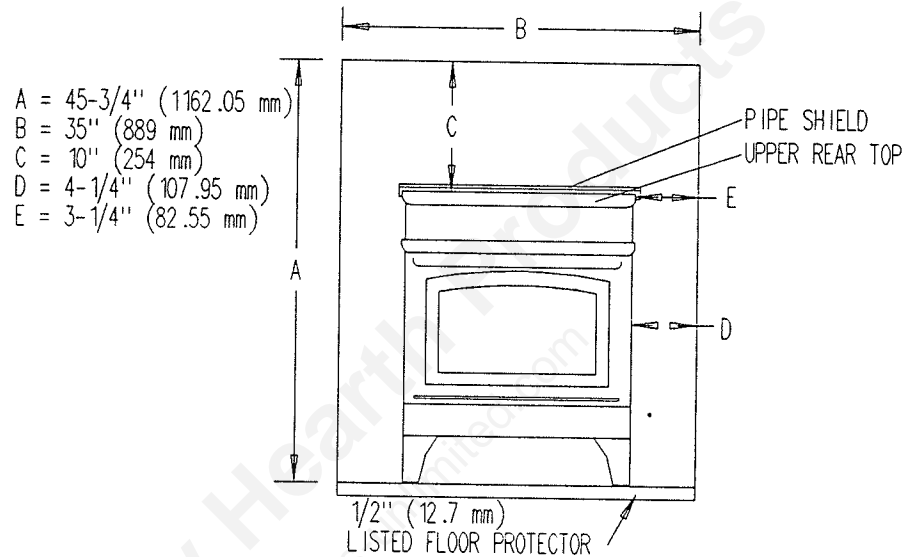

Figure 12
- (1) Horizontal Installation 35" (889mm): 3-1/4" (82.55mm) from upper top to combustible wall. See figure 12.
- (2) Vertical Installation 45-3/4" (1162mm): 10" (254mm) from upper top to combustible. See Figure 12.
- (3) For minimum depth of alcove the unit may be 2" (50.8mm) clearance to wall.